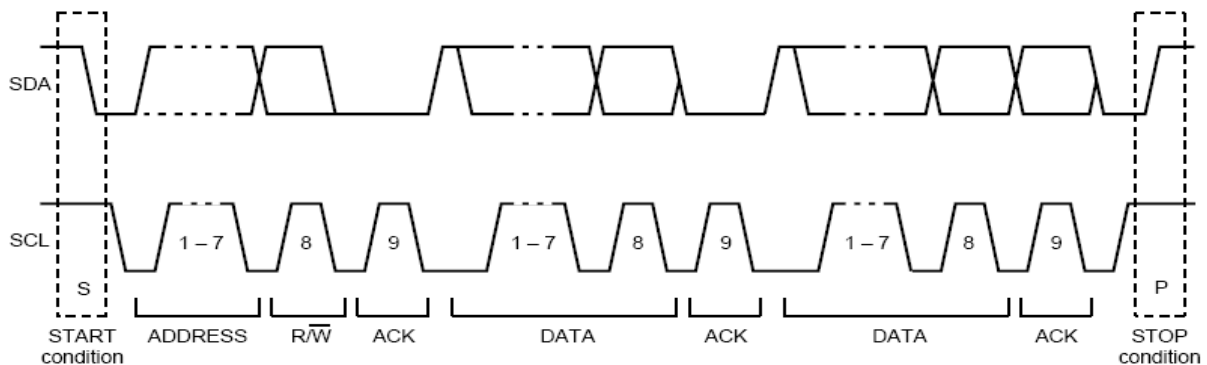

Fig. 13-2: RW bit in the 8th bit after IIC address
**RW1:** This bit will be sent out as RW of the slave side if the module has set the MStart or RStart bit. It appears at the 8th bit after the IIC address as shown in Fig. 13-2. It is used to tell the slave the direction of the following communication. If it is 1, the module is in master receive mode. If 0, the module is in master transmit mode.